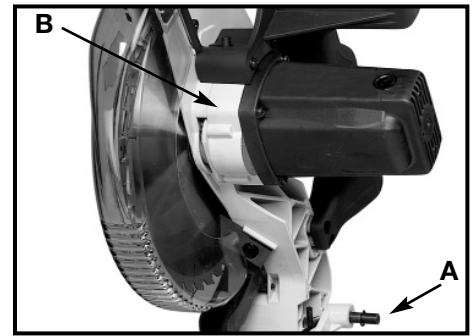

Fig. 5
4. The machine is shipped with the cuttinghead locked in the down position and the table rotated to 45° left, Fig. 2. To release the head and move it to the operating position, see "MOVING CUTTINGHEAD TO THE UP POSITION" and "MOVING THE TABLE TO THE 0° CUT-OFF POSITION" in this manual (Fig. 5 & 7).
2. Fig. 5, illustrates the lockpin (A) pulled out and the cuttinghead (B) in the up position.